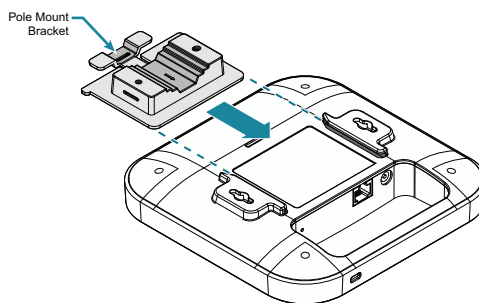

Figure 5. Attaching Pole Mount Bracket to BSAP
1. Attach the pole mounting bracket to the back of the BSAP by sliding the bracket into the recessed area behind the keyed slots until locked into place as shown in Figure 5.